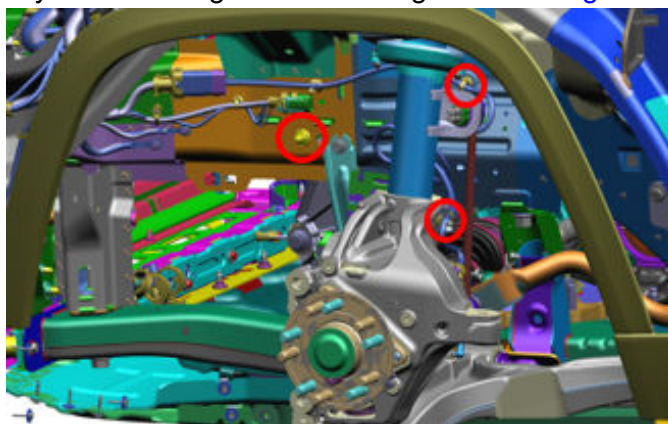

Fig. 4
8. Install the new wire harness by reconnecting it to the routing retainers Fig. 4.